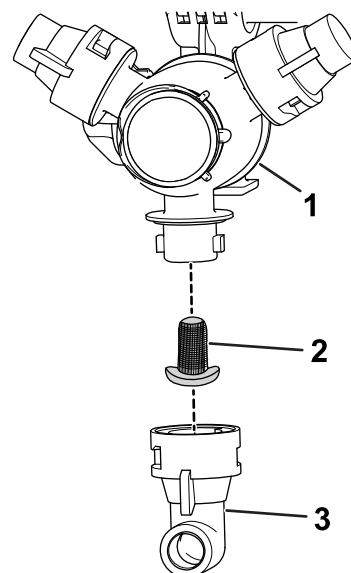

Figure 98
2. Remove the nozzle from the spray turret (Figure 98).
3. Remove the old nozzle filter (Figure 98).
4. Install the new nozzle filter (Figure 98).
5. Install the nozzle onto the spray turret (Figure 98).